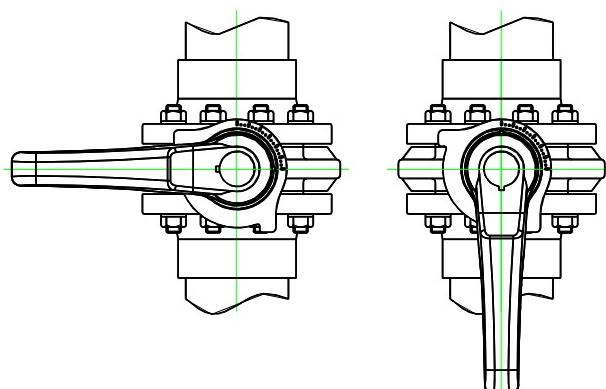

Fig. 7 – 1
- 2) In case of lever type (80-200 mm{3"-8"})}, the direction of handle is same as the disc as shown in Fig. 7 – 1.